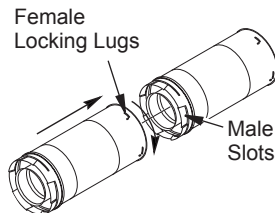
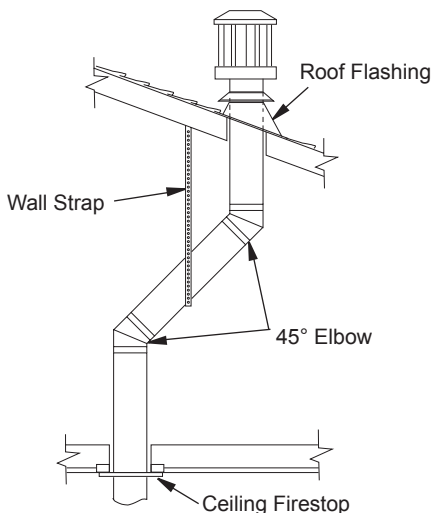

Figure 8 - Vent Pipe Connections
Figure 15 - Offset with Wall Strap and 45° Elbows
Twist-Lock Procedure: Female ends of pipes have locking lugs (indentations). These lugs will slide straight into matching slots on male ends of adjacent pipes. Push pipe sections together and twist one section clockwise approximately one-quarter turn until sections are fully locked (see Figure 8).
1. Determine route your vertical venting will take. If ceiling joists, roof rafters or other framing will obstruct venting system, consider an offset (see Figure 15, page 14) to avoid cutting load bearing members. Note: Pay special attention to these installation instructions for required clearances (air space) to combustibles when passing through ceilings, walls, roofs, enclosures, attic rafters, etc. Do not pack air spaces with insulation. Also note maximum vertical rise of venting system and any maximum horizontal offset limitations.
1. Cut a 11 1/2" square hole in ceiling using locating hole as a center point. Opening should be framed to 11 1/2" x 11 1/2" inside dimensions, as shown in Figure 8 on page 9 using framing lumber the same size as ceiling joists. If area above ceiling is an insulated ceiling or an attic, nail firestop from top side. This prevents loose insulation from falling into required clearance space. If area above ceiling is a living space, install firestop below framed hole. Firestop should be installed with no less than three nails per side (see Figure 15).
2. Assemble desired lengths of pipe and elbows necessary to reach from fireplace flue up through firestop. Be sure all pipe and elbow connections are fully twist-locked (see Figure 8, page 11).
Note: If an offset is needed to avoid obstructions, you must support vent pipe every 3 feet. Use wall straps for this purpose (see Figure 15). Whenever possible, use 45° elbows instead of 90° elbows. The 45° elbow offers less restriction to the flow of flue gases.
5. Place flashing over pipe section(s) extending through roof. Secure base of flashing to roof and framing with roofing nails. Be sure roofing material overlaps top edge of flashing as shown in Figure 15. There must be a 1" clearance from vent pipe to combustible materials.